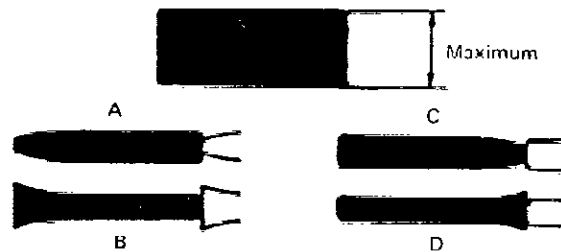
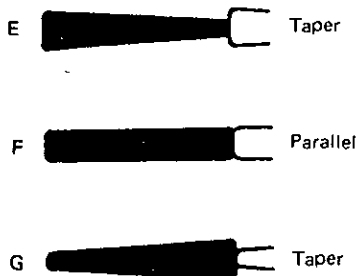

Fig. 31 Minimum FM output (incorrect examples)
Fig. 32 Minimum FM output (correct examples)
- If the waveform becomes as shown by A or B of Fig. 31 carefully adjust the supply guide roller height so that the waveform becomes as shown by E, F or G of Fig. 32.
- If the FM waveform appears as shown by C or D in Fig. 31 carefully adjust the take-up guide roller height to obtain a waveform such as shown by E, F or G of Fig. 32.
Perform fine adjustment of supply and take-up guide rollers so that waveform variation becomes as shown by E, F or G of Fig. 32.